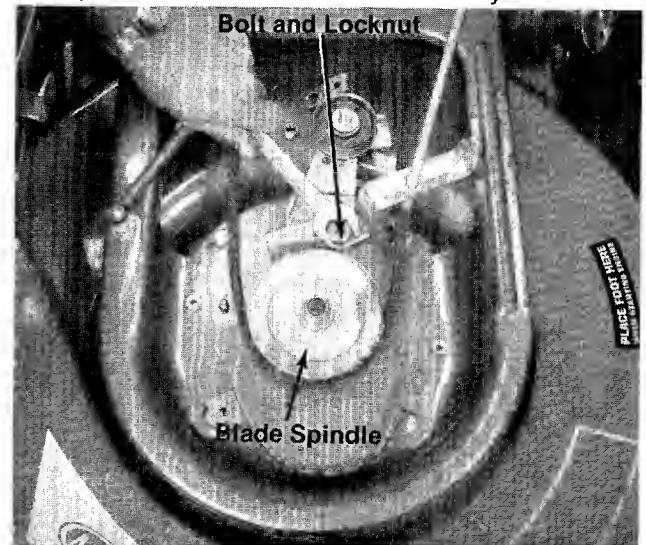

FIGURE 22
5. Remove the brake lever assembly by removing the bolt and locknut. (See figure 22.)